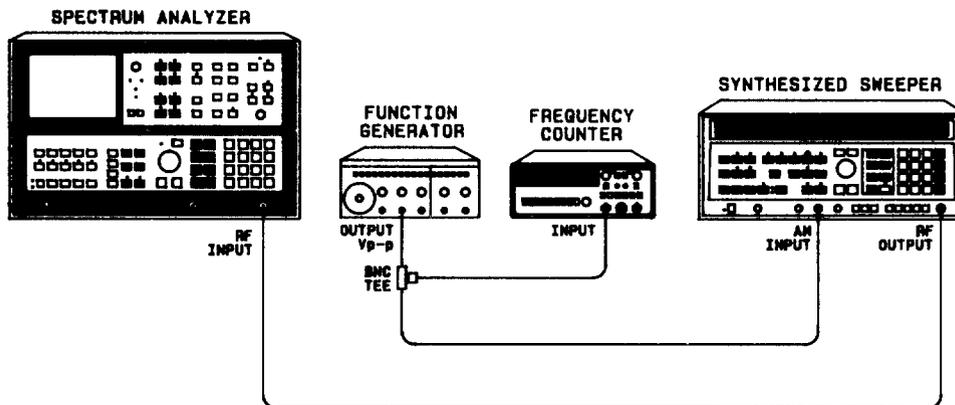

FIGURE 35. FAST SWEEP TIME ACCURACY (<20 MSEC) TEST SETUP
1. Connect equipment as shown in Figure 35.